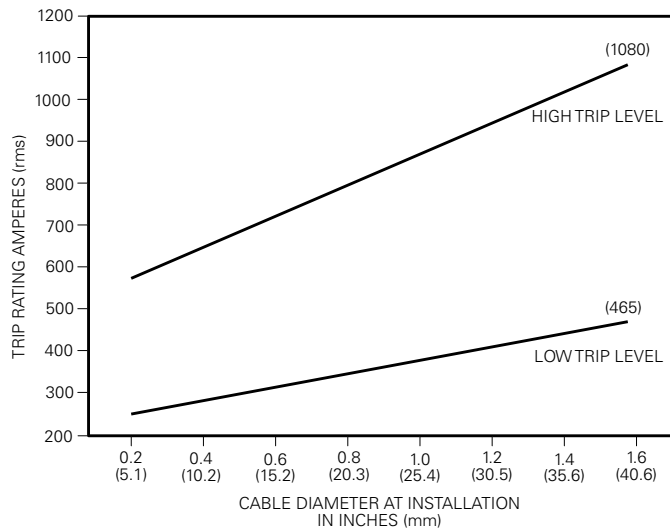

Figure 4. S.T.A.R. MR faulted circuit indicator cable diameter vs. trip value curves.
S.T.A.R. FCIs are available with either a high or a low trip rating. The very same FCI can be used on cable sizes from 0.25 inches (6.4 mm) to 2.0 inches (51 mm). Therefore, it is not necessary to specify a cable diameter when placing an order. Refer to Figure 4 for applicable trip value versus cable diameter information.
Trip Response Speed	Response Curve, Figure 4